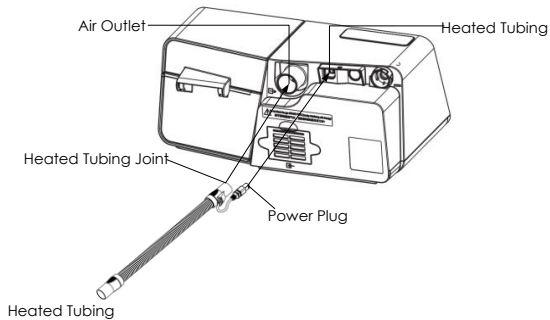

Fig. 12-9
(2) Connect the heated tubing joint to the air outlet of the device, and then insert the power plug into the heated tubing port on the back of the device, as shown in Fig. 12-9.